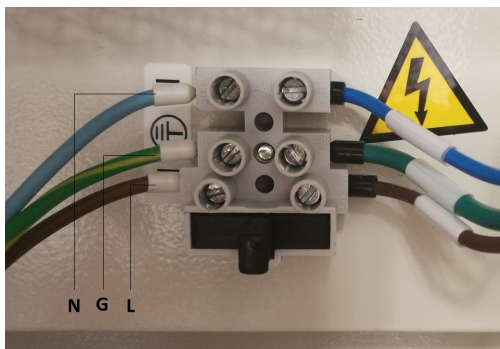

Figure 12. Wiring of AC Power Supply
- The instrument is equipped with three sets of power wiring terminals in the electrical box (see **Figure 12** and **Table 4**).